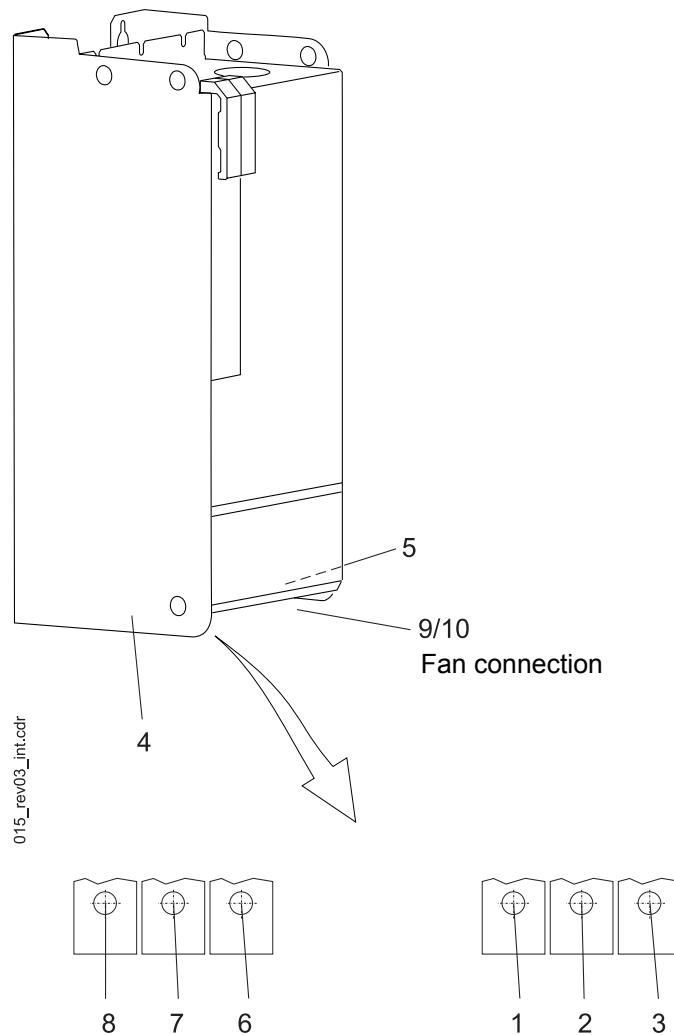

Figure 15: Power terminals
These are located on the bottom side of the appliance (see ▶Figure 15◀ on page 48).
2) Position, see ▶Figure 15◀ on page 48.